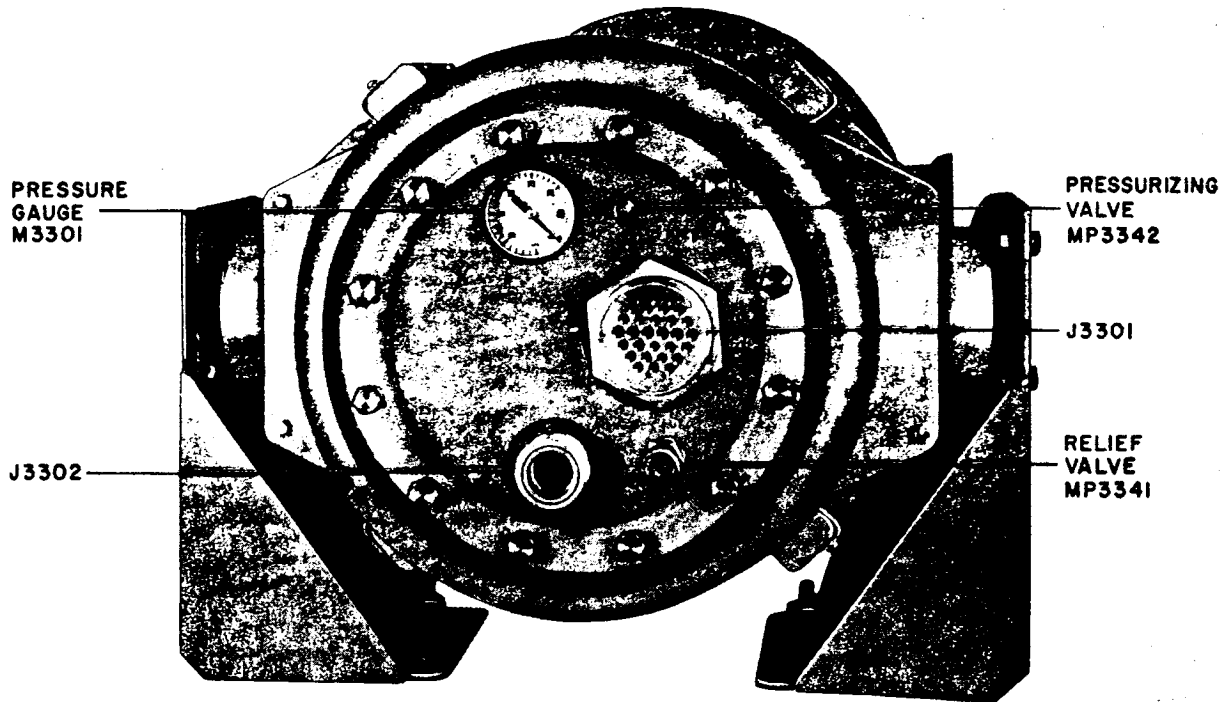

Figure 2-4. Radio Frequency Tuner TN-345/WRT-1, Pressurizing Adjustments
5495 air chuck (for 1/4-inch inside-diameter hose) on one end and a Shrader No. 7643 female coupling on the other end. After obtaining these materials, refer to figure 2-4 and proceed in the following manner:
Step 2. Refer to figure 2-4, and open relief valve MP3341.
Step 5. Refer to figure 2-4 and connect air chuck (attached to the other end of No. 9587 hose) to pressurizing Valve MP3342.